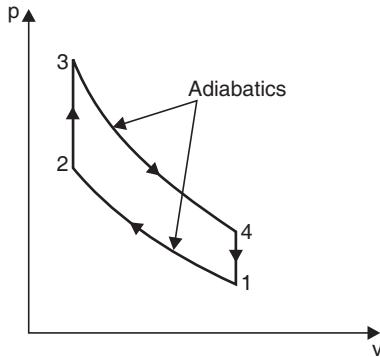

Fig. 4.7
**Solution.** Refer to Fig. 4.7.